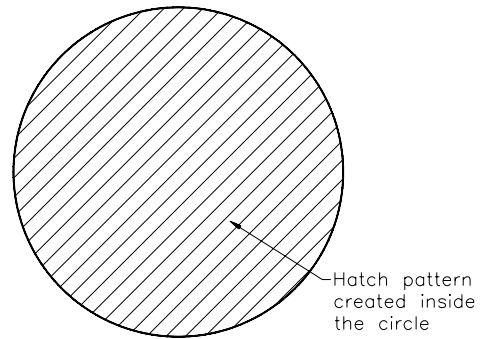

Figure 15-5 Drawing after hatching
5. Choose **OK** to apply the hatch to the selected object, Figure 15-5. Note that if you right-click while checking the preview, the hatch will be applied.